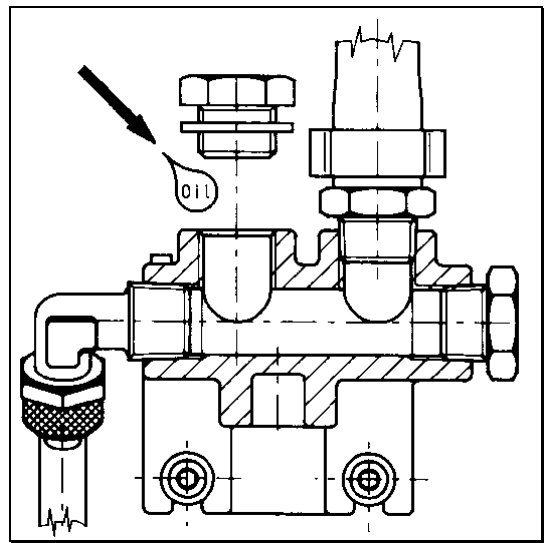

Fig.30
- \* Open the lubrication cap and drop a small quantity of oil (2-3 cc) (Fig.30). Use suggested oils listed above.